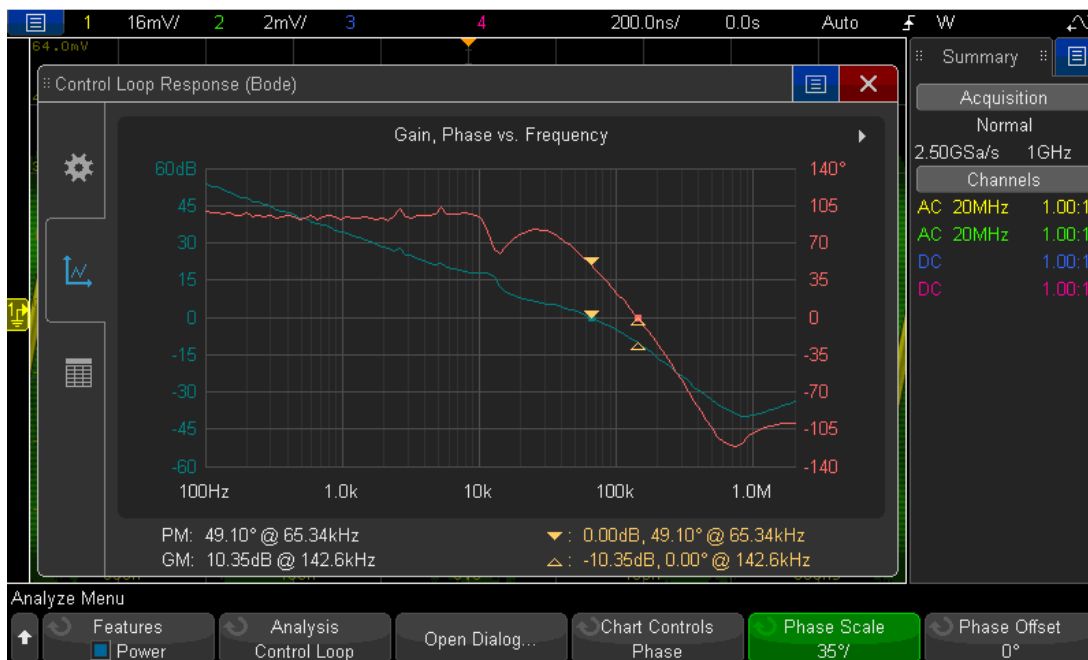

Figure 9. Control Loop Response test on the negative feedback network of a switch mode power supply.
Figure 9 shows the results of an in-circuit control loop response measurement on the feedback network of a switch mode power supply. Critical measurements include phase margin (PM) and gain margin (GM). InfiniiVision oscilloscopes display this automatically at the end of a frequency response test if licensed with the optional Power Measurements software package. In this test, 49° of phase margin at the 0 dB cross-over frequency and 10 dB of gain margin at the 0° cross-over frequency are sufficient to insure stability.